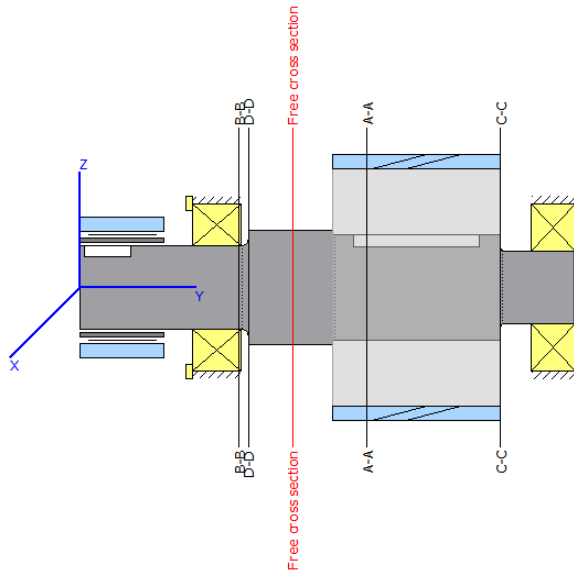

Figure 2.22 Graphics with cross sections and equivalent stress (active cross section: red)
- Click "Graphics" to view the position of the new cross section (you can also move the cross section with the mouse). See Figure 2.22